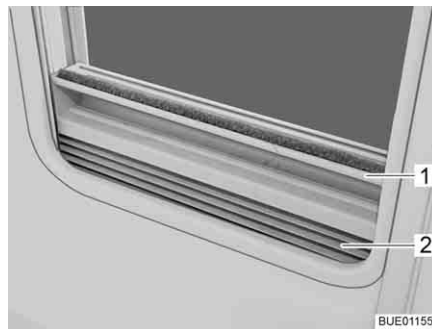

Fig. 43 Roman shade
- Closing:* ■ Grip the Roman shade (Fig. 43,2) in the middle of the holding bar (Fig. 43,1), pull it upwards and then release it at the desired height. The Roman shade will stay at this height.